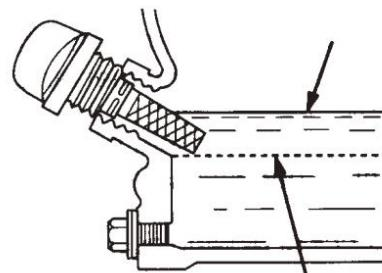

FIG.3
- 7.2.4 If the oil level is low (FIG. 3), fill to the edge of the oil filler hole with the recommended with SAE10W-30 4 stroke oil. Maximum oil capacity is 400 cc.